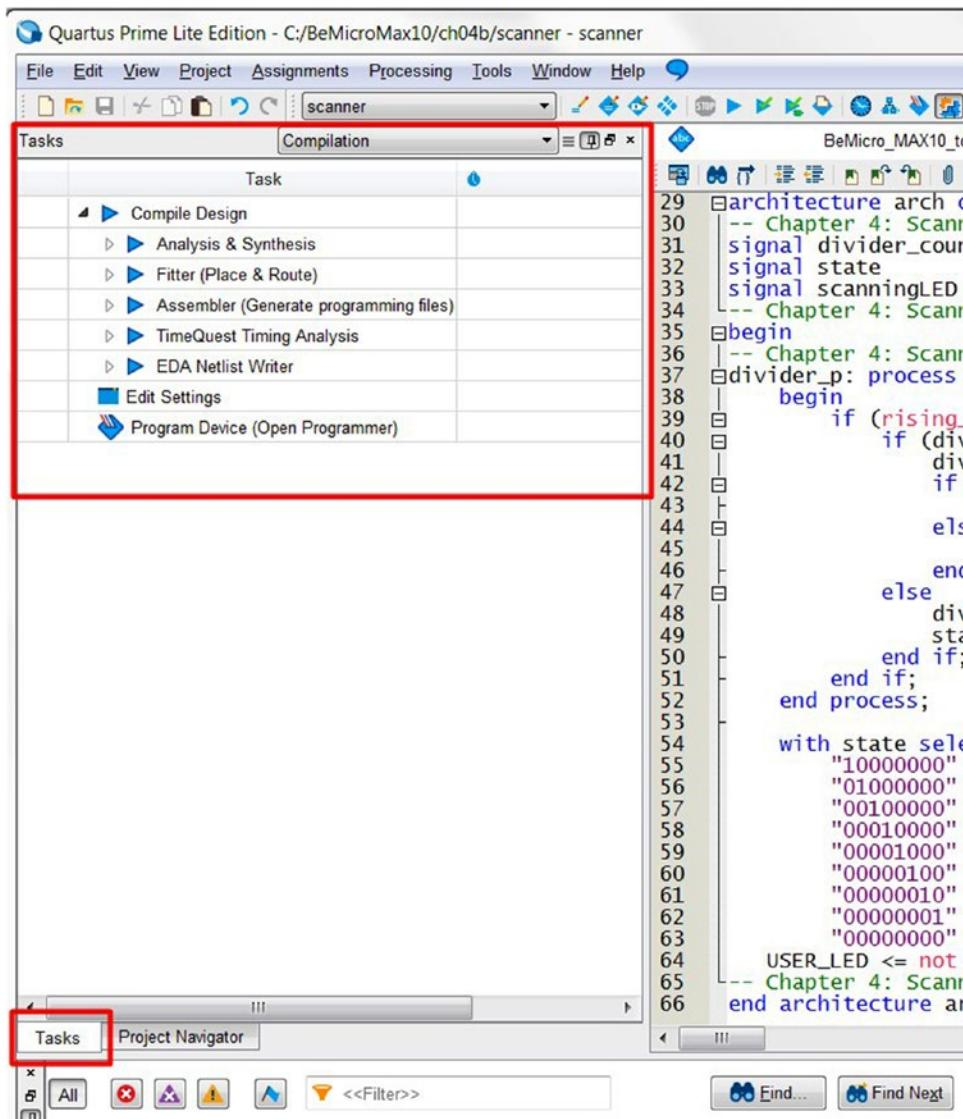

Figure 4-25. Switch to Tasks view.
- Click the **Task** tab to switch to the Tasks view. It will look like Figure 4-25.